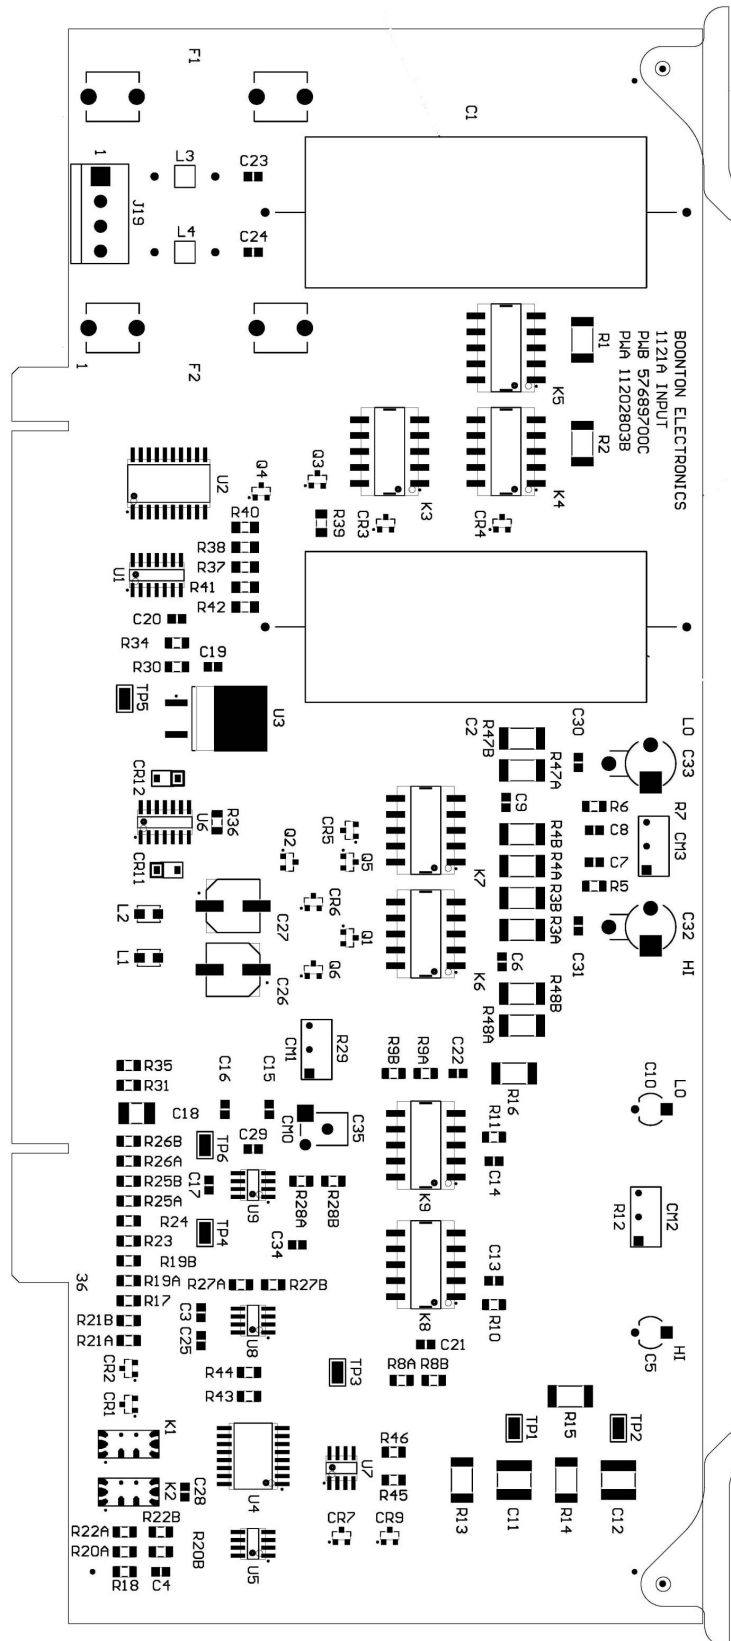

Figure 6-3. PWA '1121A' Input (A0)
**11202803A PWA INPUT 1121A (A0) (Figure 6-3)